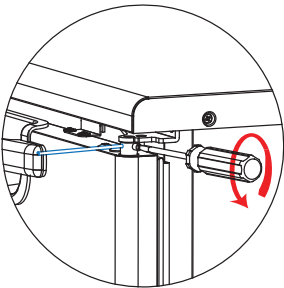

Fig 9-48
3. Turn and detach the tension pin by using a (-) screwdriver. Avoid dropping or losing the pin. (Fig 9-48)